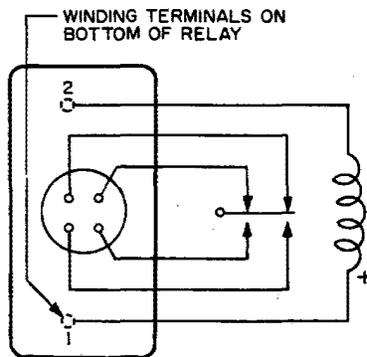

Fig. 76 – Winding and Spring Terminal Numbering — 322-Type Relays
2.82 As viewed from the bottom, the winding terminals are designated as shown in Fig. 76. In relation to the winding terminals, the spring terminals, located on the mounting surface of the relay (relay top) are arranged as shown in Fig. 76.